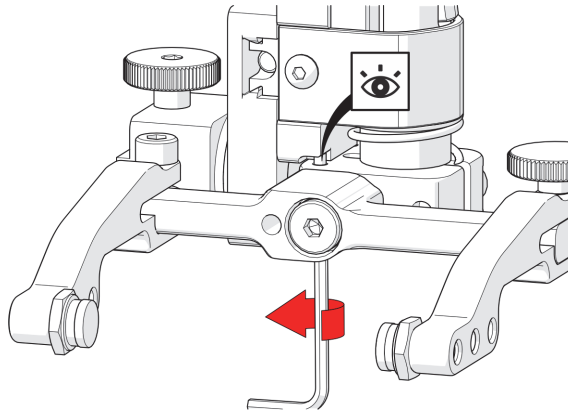

Figure 2-72 Raise opposite 90° stop post
8. Raise the stop post on the opposite side until the side of the post clearly contacts the 90° stop point on the probe holder's base (see Figure 2-72 on page 104).